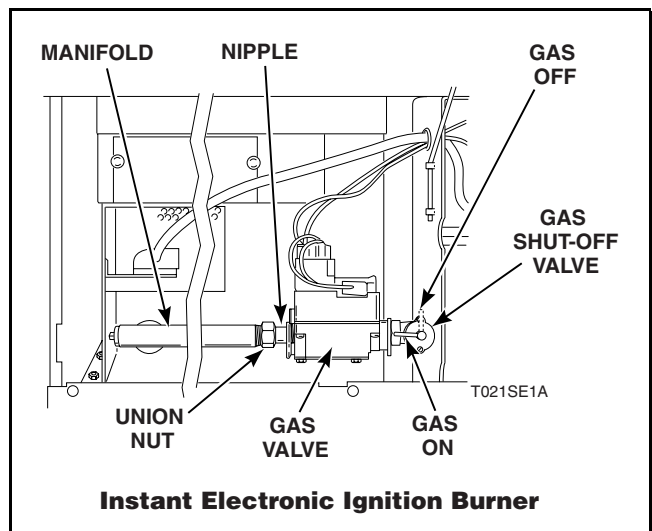

Figure 24
- b. Close gas shut-off valve. Refer to *Figure 24*.